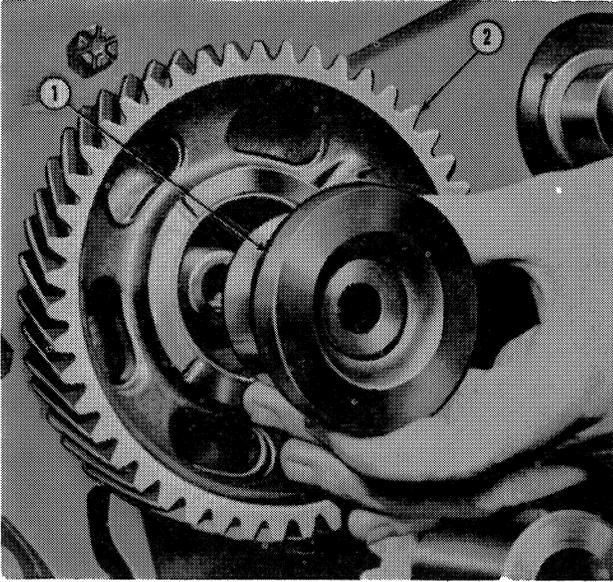

Figure 28
2. Remove the adapter and camshaft drive gear. Refer to Figure 28.